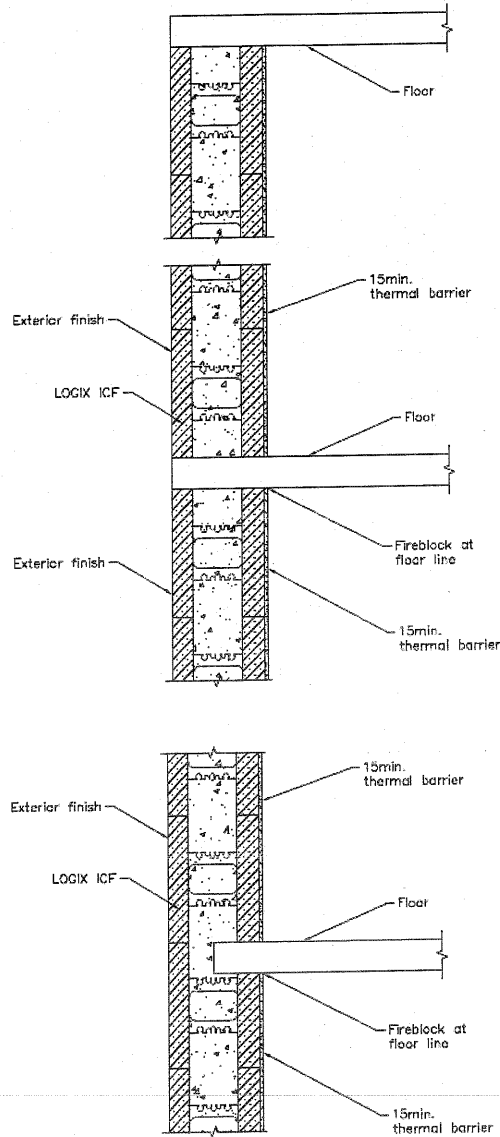

FIGURE 3—TYPICAL FLOOR-WALL DETAIL FOR NONCOMBUSTIBLE CONSTRUCTION
- * **8.4.7.1.3 Fireblocking:** For applications on buildings of any height, floor-to-wall intersections must be fireblocked in accordance with the applicable code to prevent the passage of flame, smoke and hot gases from one story to another. The foam plastic insulation on the interior side of the exterior walls and on both sides of interior walls must be discontinuous from one story to another. See Figure 3. Details of typical floor-to-wall intersections must be provided to the code official, on approved drawings.